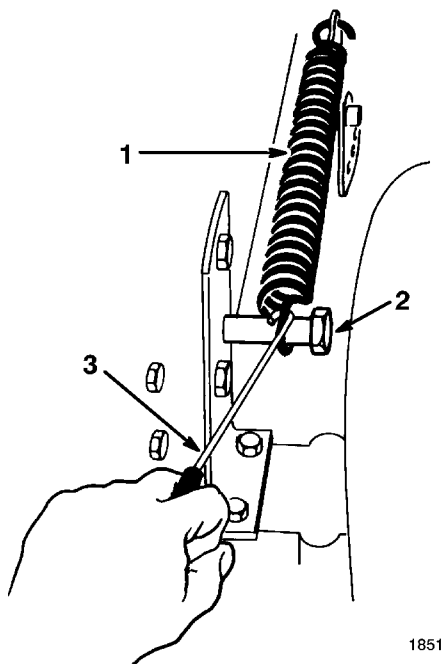

Figure 39
4. Remove the height-of-cut lift assist spring from the retaining bolt (Fig. 39), using the spring tool provided with the machine. The spring is between the frame and the right rear wheel.
13. Move the height-of-cut lever (deck lift) into the "D" notch. Hook lift assist spring onto retaining bolt for storage (Fig. 39).
15. Hook the height-of-cut lift assist spring onto the retaining bolt (Fig. 39), using the spring tool provided with the machine.